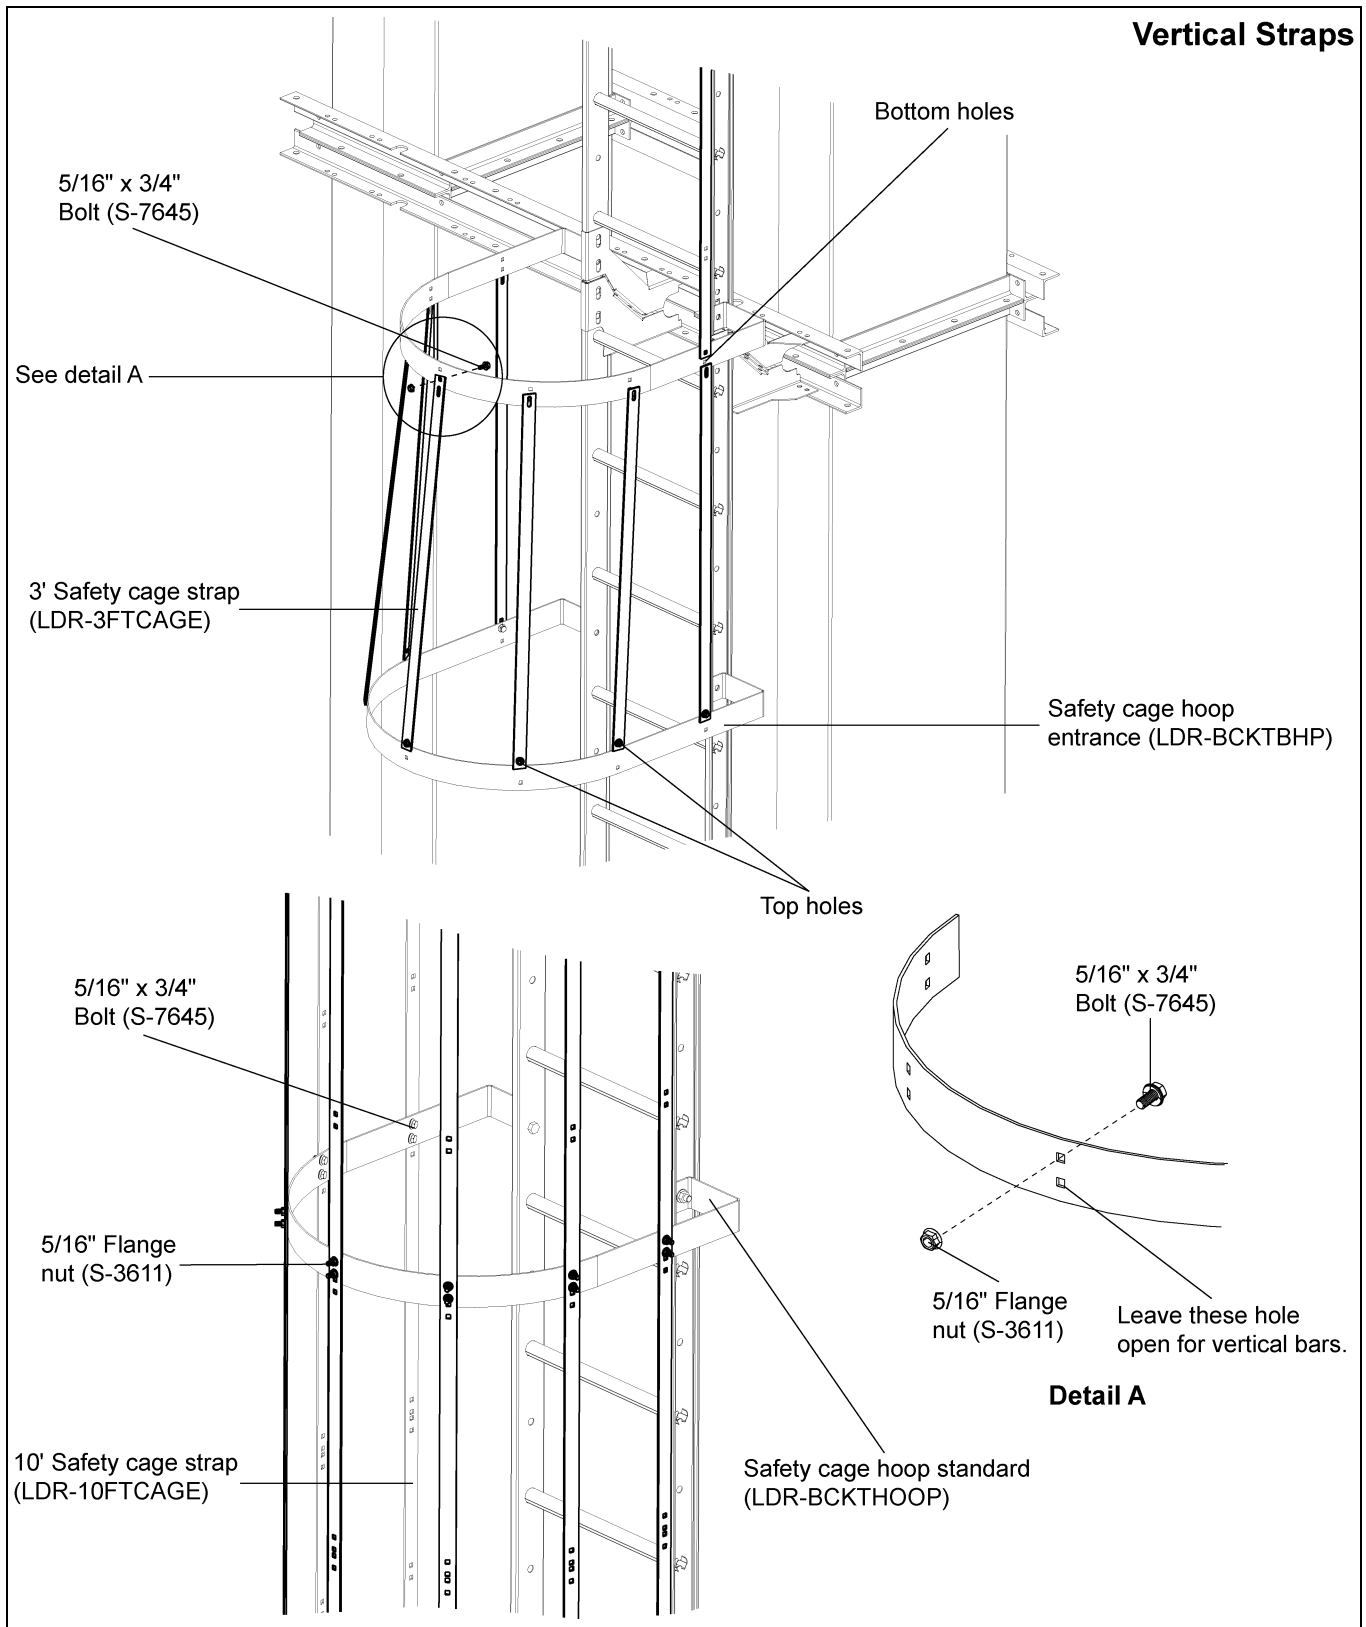

Figure 6Q
3. Install the seven (7) 10' safety cage straps along the safety cage hoops using 5/16" x 3/4" bolts and nuts. **NOTE:** Bolt heads should be to the inside of the hoop. (See Figure 6Q.)